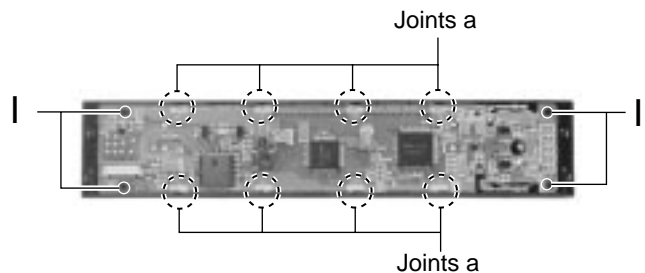

Fig.9
■ Removing the Front Board (See Fig.9)